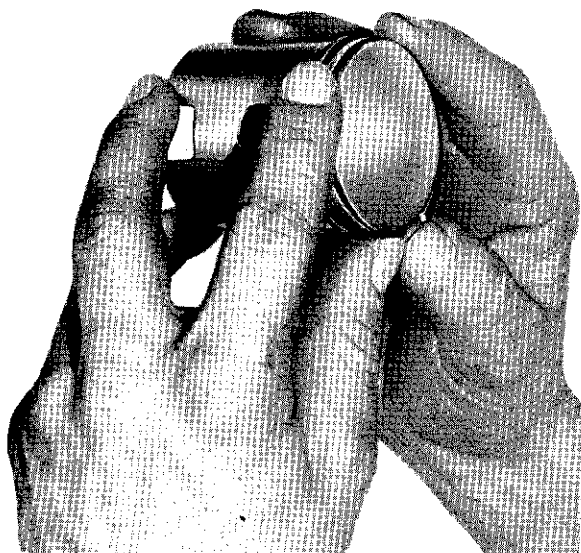

Fig. L22
- (a) Hold the piston securely on the bench. With the thumbs on the ends of the piston ring press gently apart until it is possible to clear the ring from the piston. (Fig. L22.) Care must be taken not to exert too much pressure or the piston ring may break.